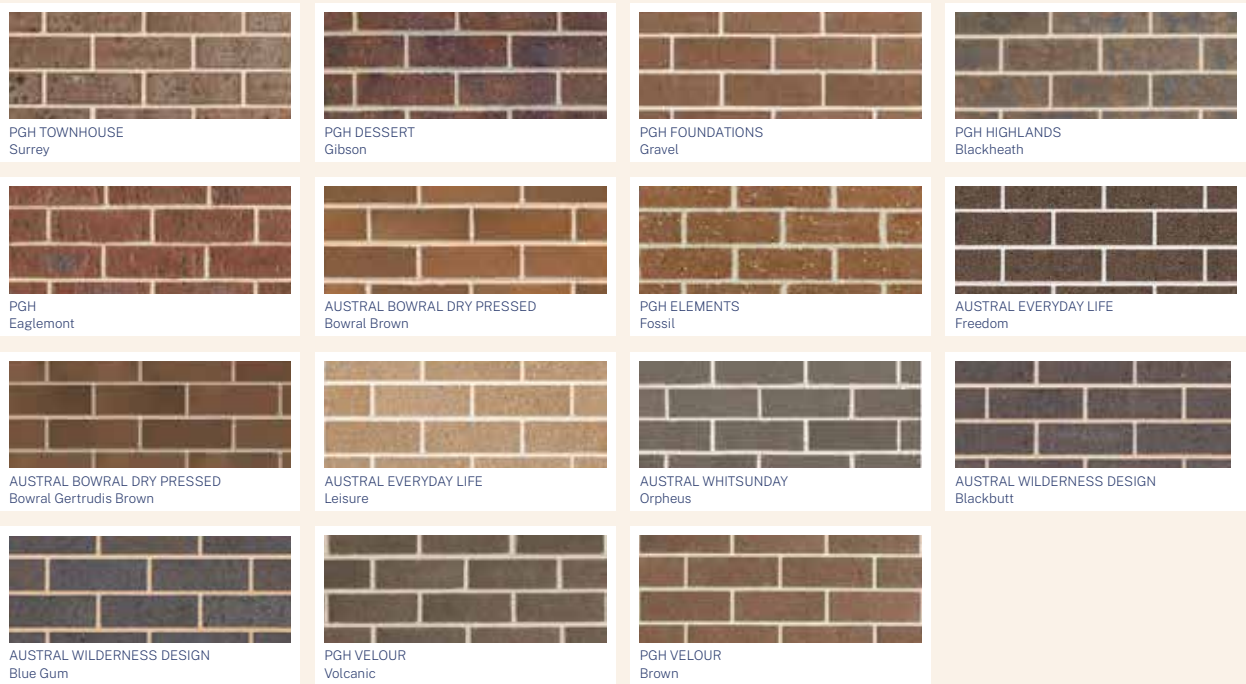

Figure 1 – Brick Colours
- Brickwork on the ground storey may be rendered and painted. In instances where the brickwork is not rendered or painted, brick colours are permitted as per figure 1.